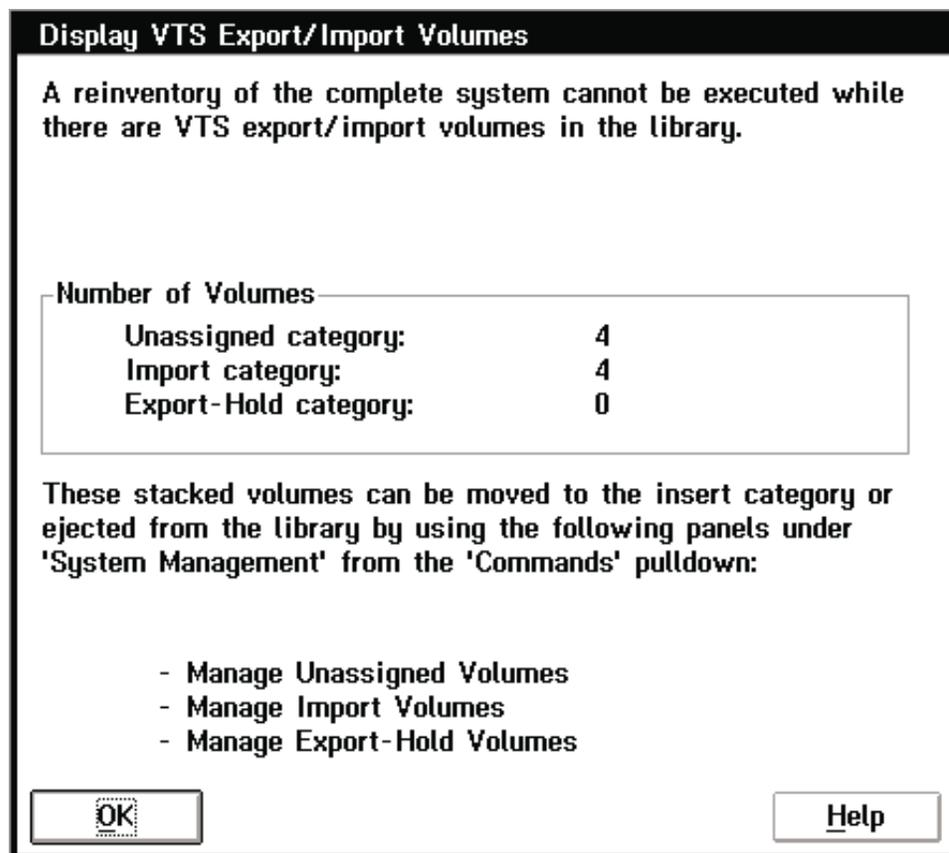

Figure 105. Display VTS Export/Import Volumes Window
2. If you select **Re-inventory Complete System** and there are VTS Import or Export Stacked Volumes in the Unassigned, Import, or Export-Hold categories, then the Display VTS Export/Import Volumes window (Figure 105 on page 177) will appear. You will not be able to continue with the re-inventory until you eject the Import and Export volumes. The re-inventory is blocked to prevent the possible destruction of important exported data. You should exit this window, then select the appropriate windows under the Commands pull-down under **System Management** on the LM Operator window and eject the indicated volumes. When you have ejected all Import and Export volumes from the library, you can then select **Re-inventory Complete System** and continue.